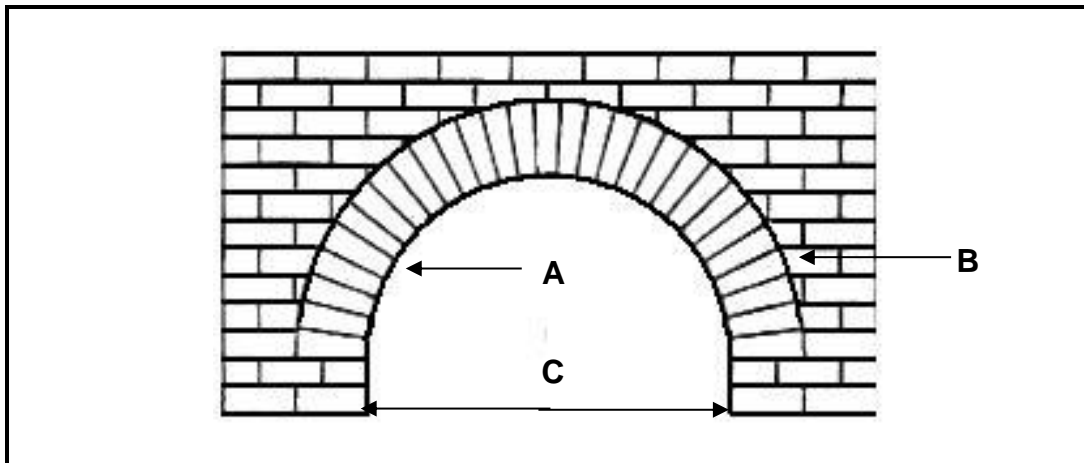

FIGURE 5.10
5.10 Answer the following questions with regard to the arch in FIGURE 5.10.